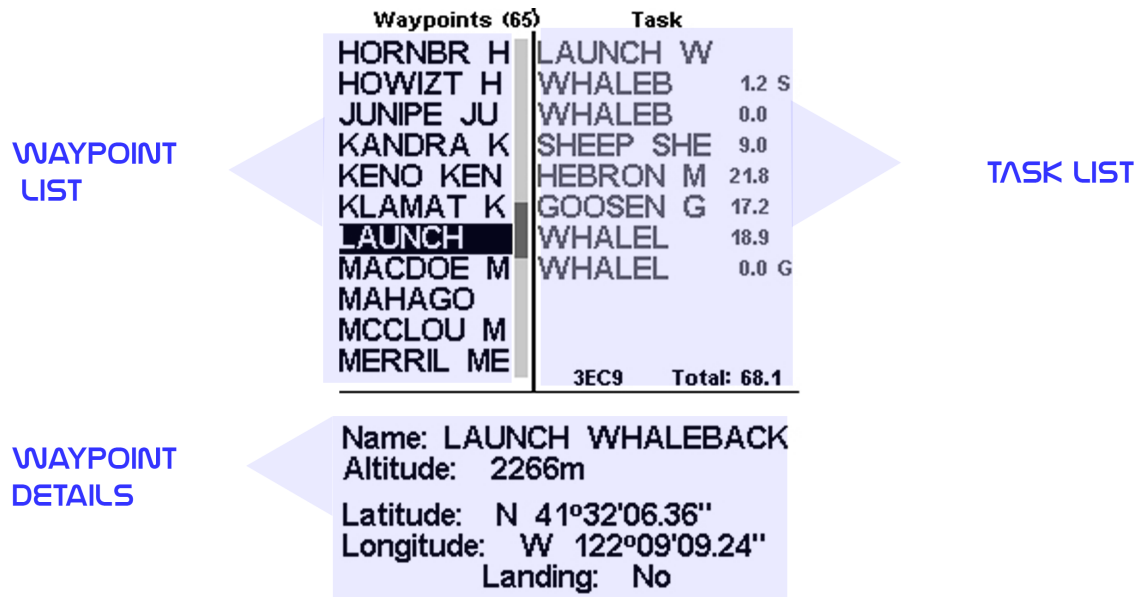

Figure 4.2: Waypoints and RouteScreen
The Waypoints/Routepage allows the user to manage waypoints, and define a route/task. As shown in Figure 4.2, the page is divided into 3 areas, namely the waypoint list (WL); Routelist (TK) and selected waypoint details/options list (DO). The DO area can change according to which submenu you are in. Specifically, it can show the selected waypoint data, or a list with possible actions for the waypoints. Entering the page activates the WL area. At the top of the page next to the title Waypoints, is the total number of Waypoints stored in the GPS instrument¹. The first waypoint on the list appears highlighted, and the corresponding data of the selected waypoint is shown in the DO area. As the cursor is moved to a different waypoint so the data changes matching the newly selected waypoint. If the waypoints list is empty a list of available actions is shown in the DO area. Since no waypoint exists only the *Insert new Waypoint* action is available.